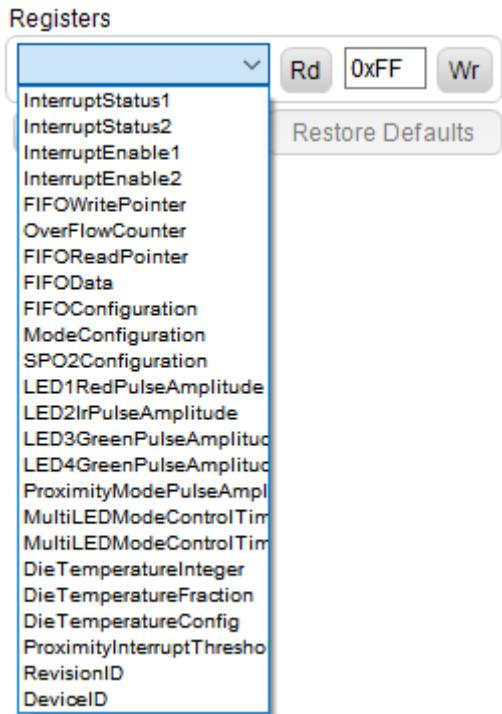

Figure 4. Accessing registers while the EV kit GUI is in operation.
Changing the GUI settings is intuitive and allows the user to experiment with them before use. However, it is important to note that if the user wants to read or write new register values, the MAX30101 GUI needs to be operational. This can be extremely useful as this provides direct access to the registers of the operational MAX30101. The user should study the MAX30101 data sheet in depth and use this user guide to optimize MAX30101 use. **Figure 4** shows how the registers can be accessed during operation followed by a recommended way of using the MAX30101 EV kit for heart rate (HR) and SpO₂.